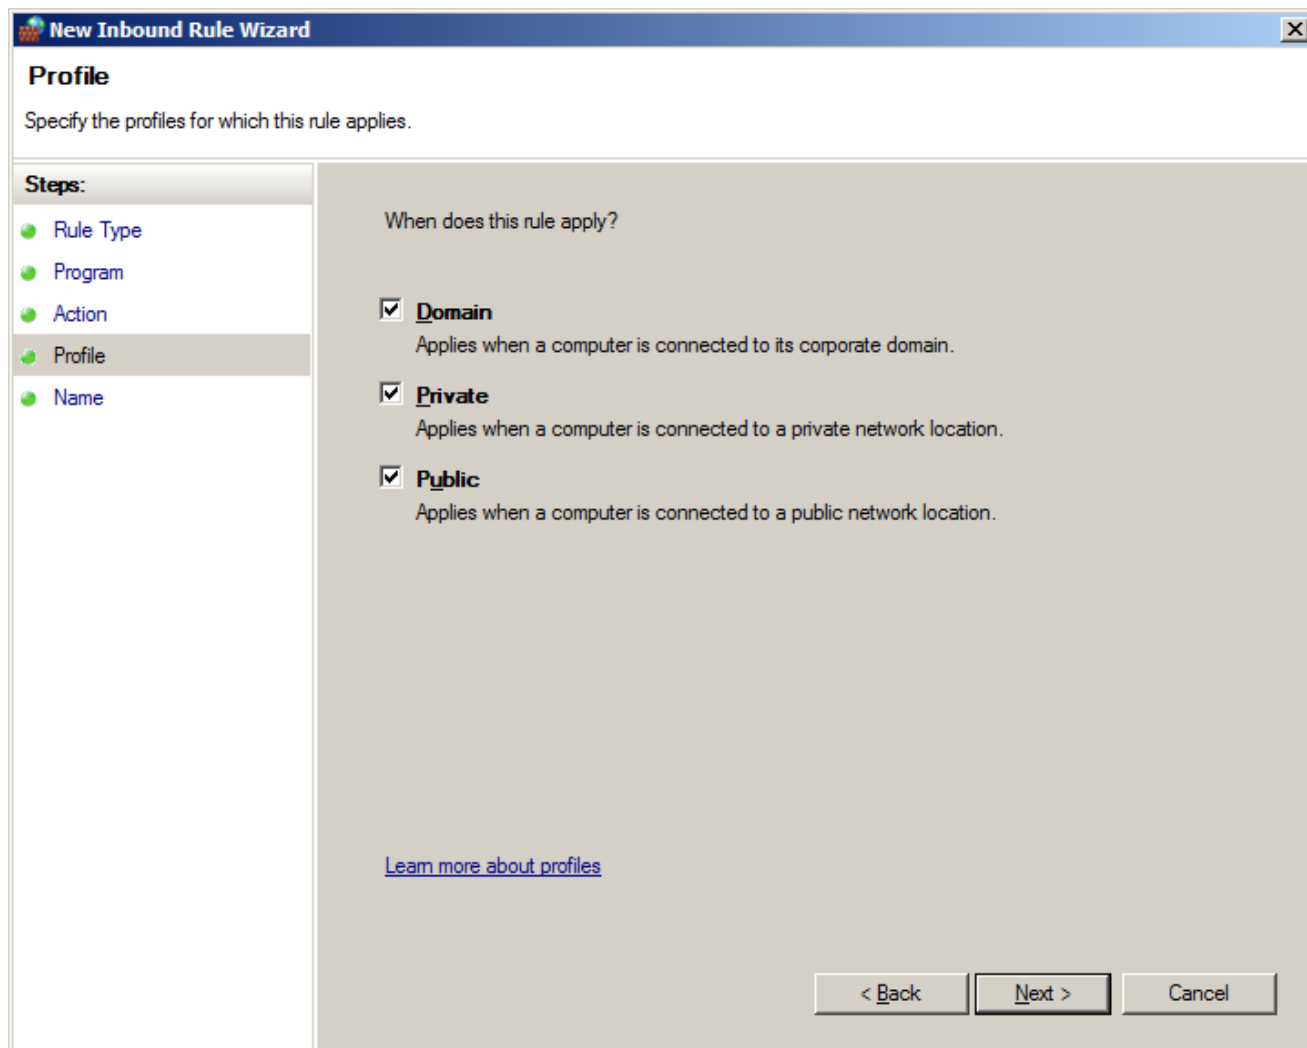

Figure 2-59. Choosing Where the Exception Applies
4. On the Profile page of the New Inbound Rule wizard, specify the cases where the DCOM port inbound rule applies. This is the same as *Figure 2-59*.
4. On the Profile page of the New Inbound Rule wizard, specify the cases where the BSIPDRV port inbound rule applies. This is the same as *Figure 2-59*.